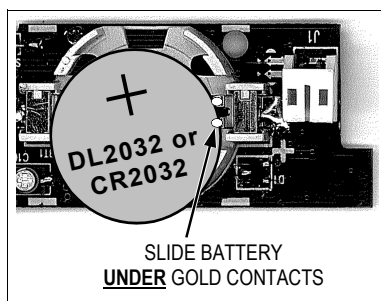

Fig. 3. Slide battery under gold contacts
- Insert the battery.** Observe battery polarity. Slide battery under the two gold contacts with the positive (+) terminal facing up and press into holder (see Fig. 3). **Do not insert backwards.**